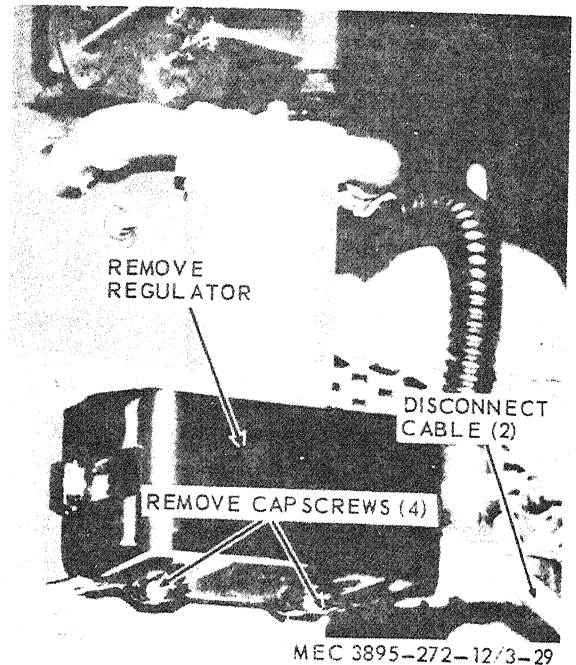

Figure 3-29. Generator regulator, removal and installation.
a. *Removal.* Remove the generator regulator as instructed on figure 3-29.
- (1) Clean the generator regulator with a cloth and approved cleaning solvent.
- (2) Inspect the regulator for defects and damage. Replace a defective or damaged regulator.
c. *Installation.* Install the generator regulator in reverse of the instructions on figure 3-29.